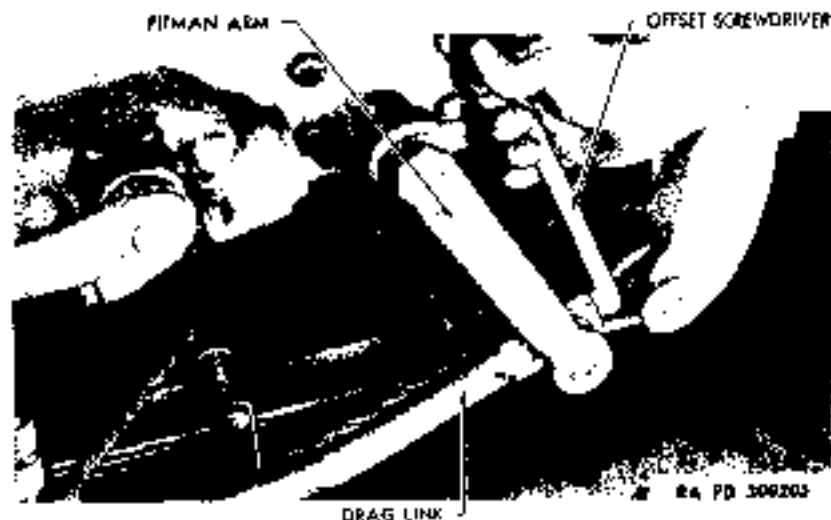

Figure 118--Adjusting Steering Drag Link
b. **Adjustment Procedure.** Remove cotter pin. Screw adjusting plug into drag link with offset screwdriver (fig. 118). Turn plug inward until it is tight against ball. Be sure bearing seats are well lubricated. Back off adjusting plug $\frac{1}{2}$ to 1 turn and test action of ball in bearing seat by moving drag link by hand. Drag link adjustment must be tight enough to prevent end play, and yet loose enough to allow free movement. Insert new cotter pin to lock adjustment.
c. **Remove Pitman Arm.** Remove cotter pin from pitman arm end of drag link. Use an offset screwdriver and loosen adjusting plug in end of drag link (fig. 118). Withdraw drag link from pitman arm